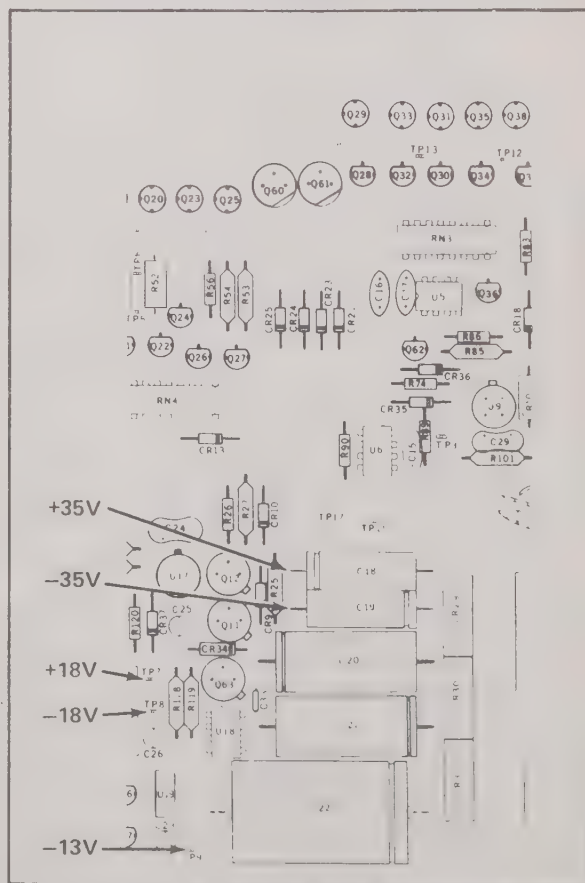

Figure 4-2. Power Supply Voltage Test Points
voltage output of each power supply. Figure 4-2 illustrates where the connections are to be made for checking each supply.
1. Using a digital voltmeter (DVM) capable of reading 1V dc with 1 μ V resolution (Fluke Model 8400A, 8800A or equivalent) connect this low input lead to the 8810A LO INPUT terminal. Connect its high input to TP13 as shown in Figure 4-2.